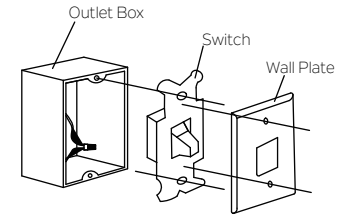

Fig. 22
**Step 1.** Remove the existing wall plate and the old switch from the wall outlet box, place the new control and wall plate. Wire nut the lead wire (hot) together and push back inside the outlet box. (Fig. 22) or select the desired location with a new wall outlet box.